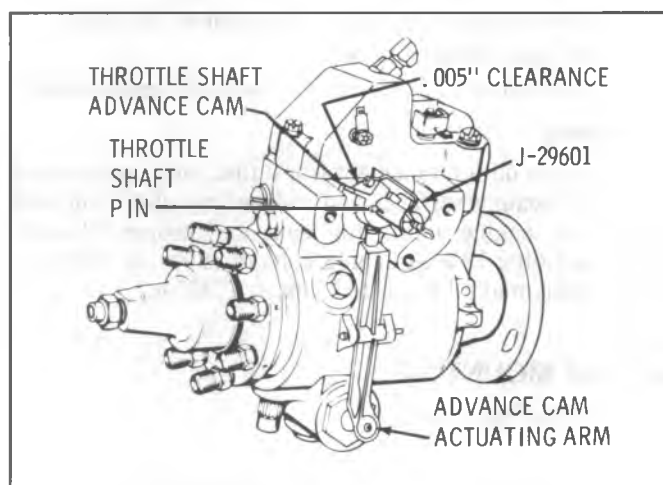

Fig. 6A6-9--Injection Pump With Tool J-29601 Installed
- a. Install tool J-29601 over the throttle shaft with slots of tool engaging pin. Put the spring clip over the throttle shaft advance cam and tighten the wing nut. Without loosening the wing nut, pull the tool off the shaft. (This provides the proper alignment on reassembly, Fig. 6A6-9).
- b. Drive the pin from the throttle shaft and remove the throttle shaft advance cam and fiber washer. Remove any burrs from the shaft that may have resulted from pin removal (Fig. 6A6-5).
8. Clean the injection pump cover, upper portion of the pump, the throttle shaft and the guide stud area. (Fig. 6A6-5). Place several rags in the engine valley to catch fuel.
10. Observe position at metering valve spring over the top of the guide stud. This position must be exactly duplicated during reassembly. (Fig. 6A6-8).